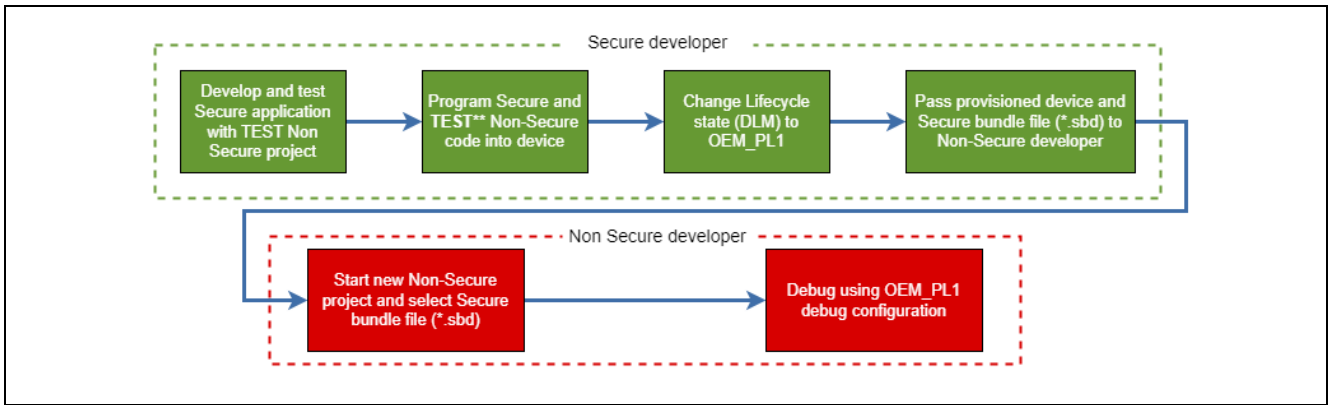

Figure 48. Development Flow for Developing in OEM_PL1 State
- See Figure 48 for details on the general flow to support Non-secure project development in the NSECSD state.
For the Split Project Development Model, the Non-secure application developer receives the MCU in the OEM_PL1 state. As mentioned towards the end of last section, special handling is needed to enable development in the OEM_PL1 state. Figure 48 is a summary of the general flow for developing in the OEM_PL1 state.